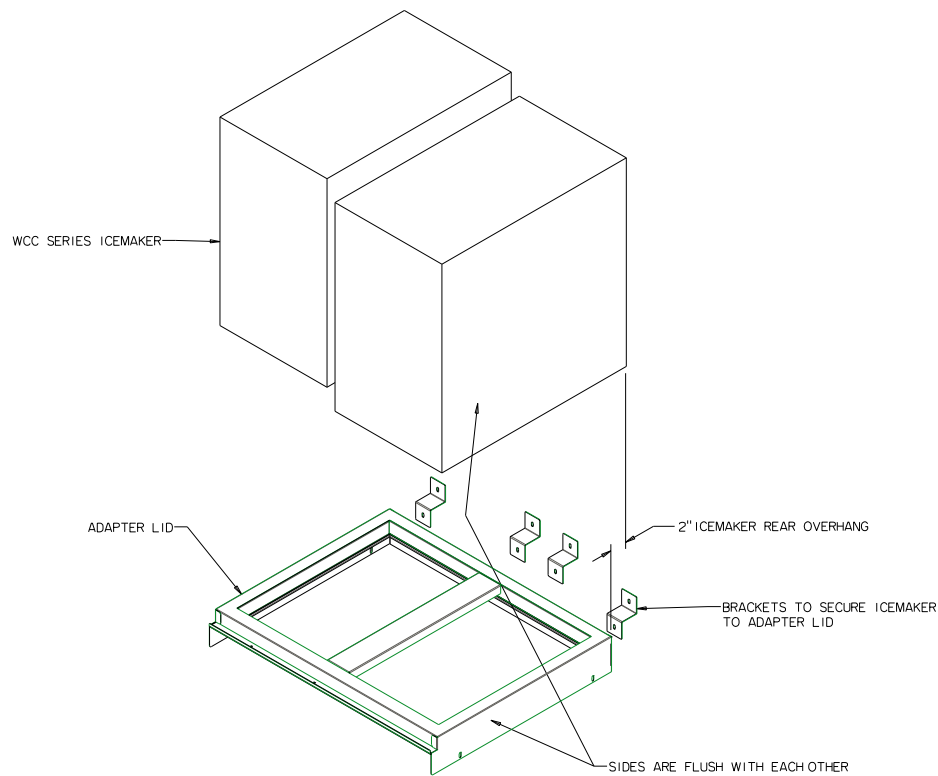

Figure 4.
9. Set one ice maker on top of the adapter kit. See Figure 4.